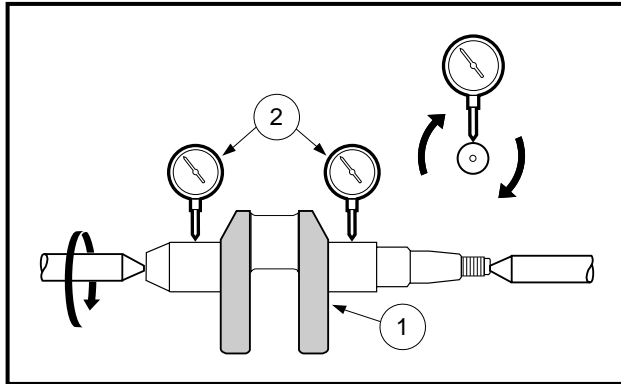

Figure 13-86 Check Crankshaft Alignment
- 8.2. Turn crankshaft (1) slowly and measure total indicated run-out at the location shown (**Figure 13-86, Page 13-40**).